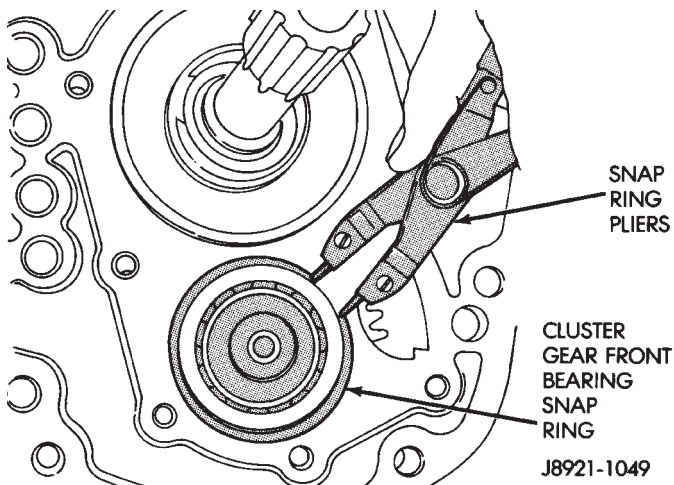

Fig. 19 Removing Cluster Gear Front Bearing Snap Ring
(4) Remove cluster gear front bearing snap ring (Fig. 19).